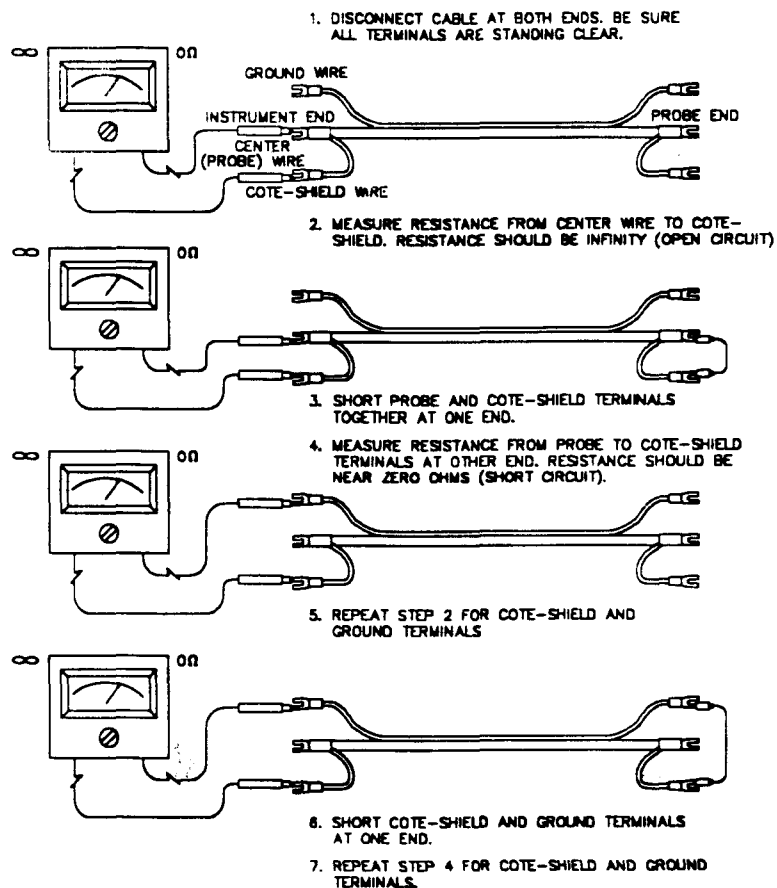

Figure 5-4
- A. Disconnect the cable at both ends. Be sure all terminals are standing clear. See Figure 5-4.